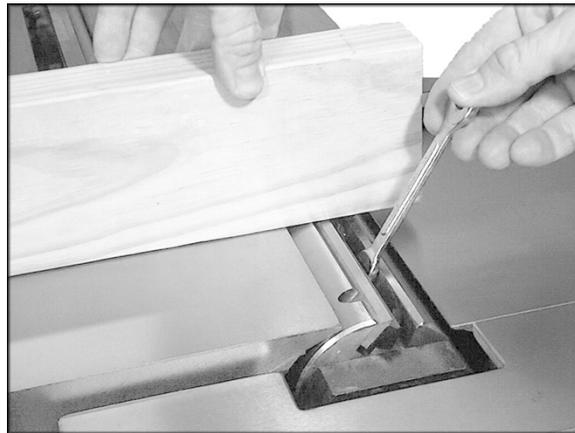

Figure 32 (straight cutterhead)
16. Use the edge of a board to push the knife back down so that it is flush against the jack screws. See Figure 32. Tighten the gib screws only enough to keep the knife in position in the cutterhead. Do not fully tighten.
20. After the three (3) knives are positioned properly in the cutterhead and made snug, continue tightening the gib screws. The gib screws should be tightened in increments, to prevent any distortion to the cutterhead or buckling of knives. Begin tightening the gib screws a little more on one knife. Start with the center screw and work your way to the ends. Do not fully tighten yet.